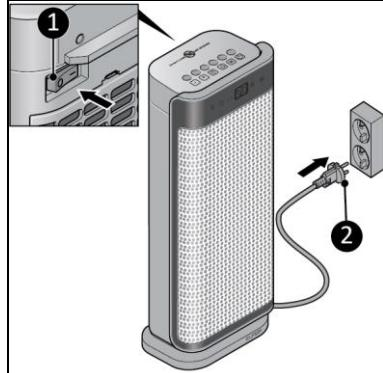

Figure 7
2. Make sure the device is OFF position (Figure 7, pos. 1).
4. Place the power plug (Figure 7, pos. 2) into a wall socket that is easily accessible. Use a wall socket with a minimum power of 2000 Watt.